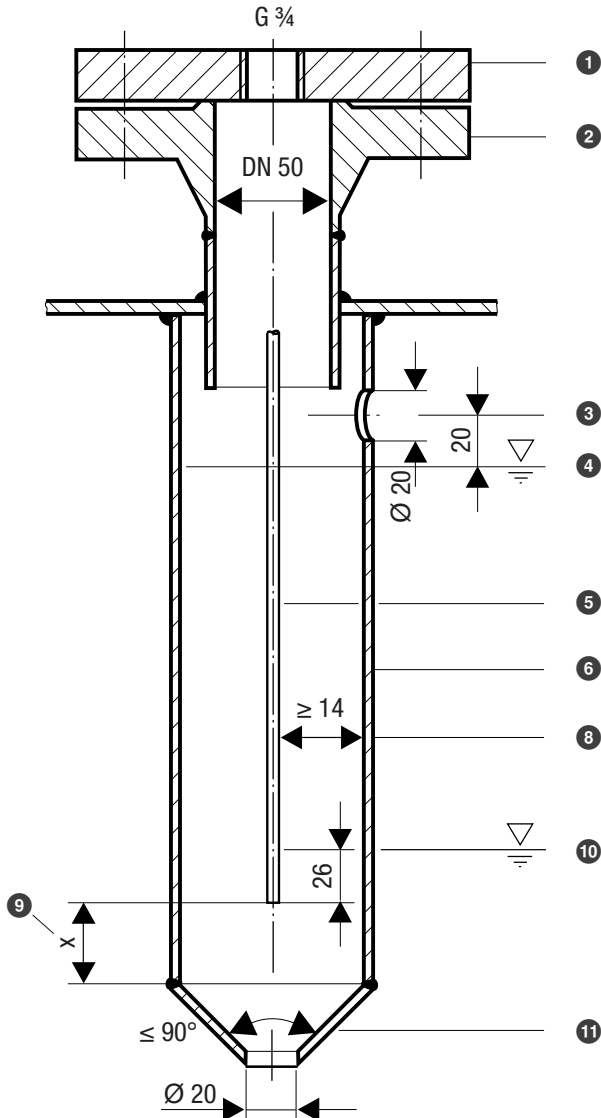
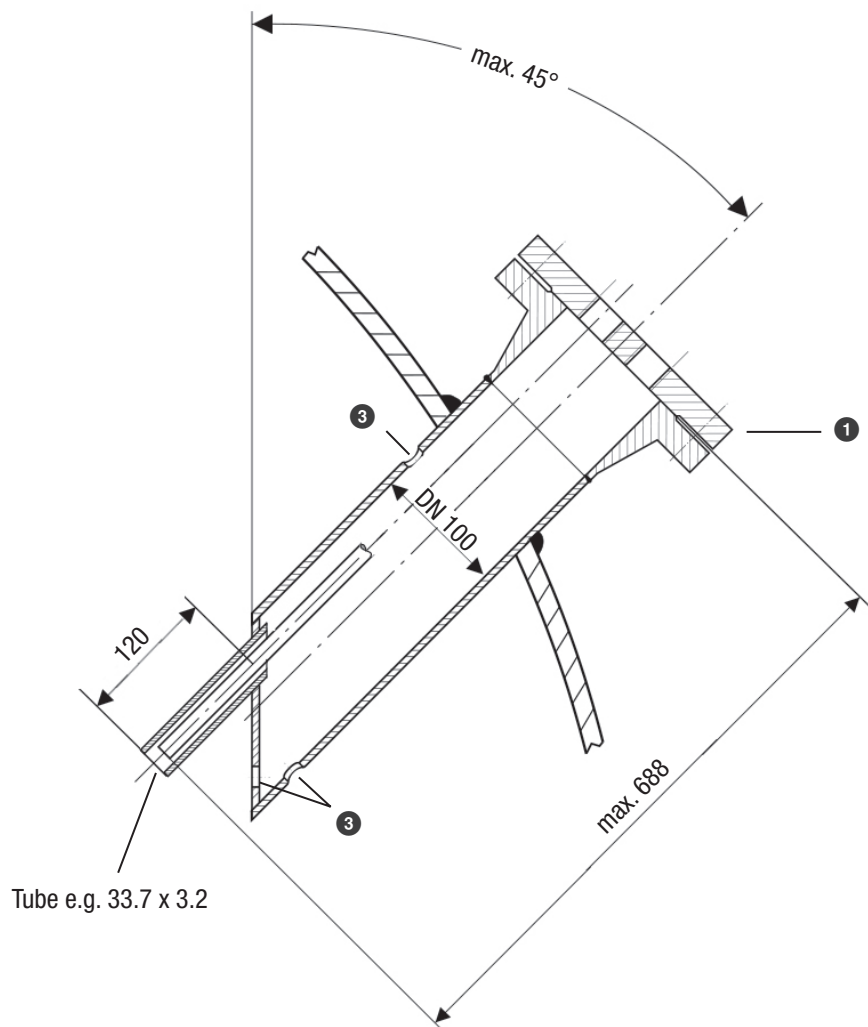

Fig. 10
Fig. 14
- Pay attention to the minimum clearances when installing the level electrode, see installation examples Fig. 10 to Fig. 14.
Installation example with dimensions, see Fig. 10, page 27
Key Fig. 10 to Fig. 14